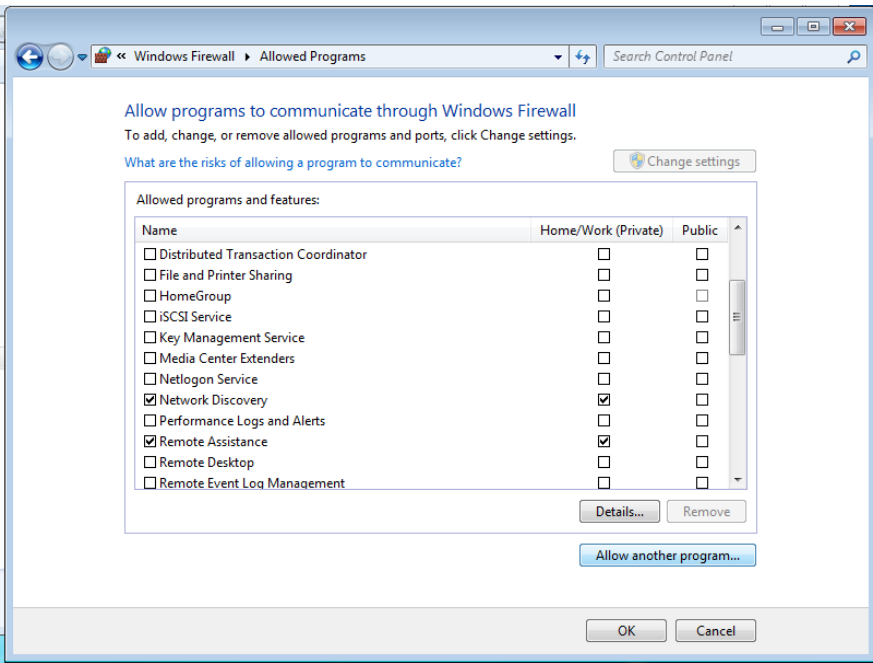

Fig.1.20 Allowed Programs
(5)Click “Changes settings” button and “Allow another program” button (see Fig.1.20).